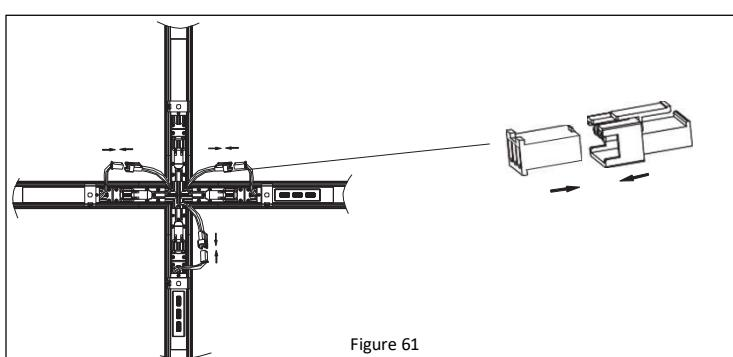

Figure 61
6. Make electrical connection between fixtures and "X" connector using male-female connectors. *See Figure 61.*